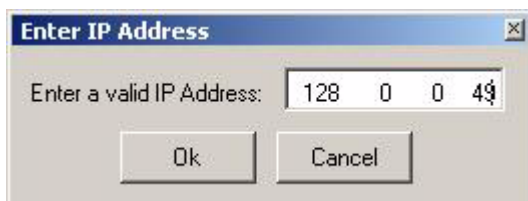

Figure 1-8. IP Address Entry Box
3. Enter the IP Address 128.0.0.49 in the box next to “Enter a valid IP Address”. Refer to Figure 1-8.